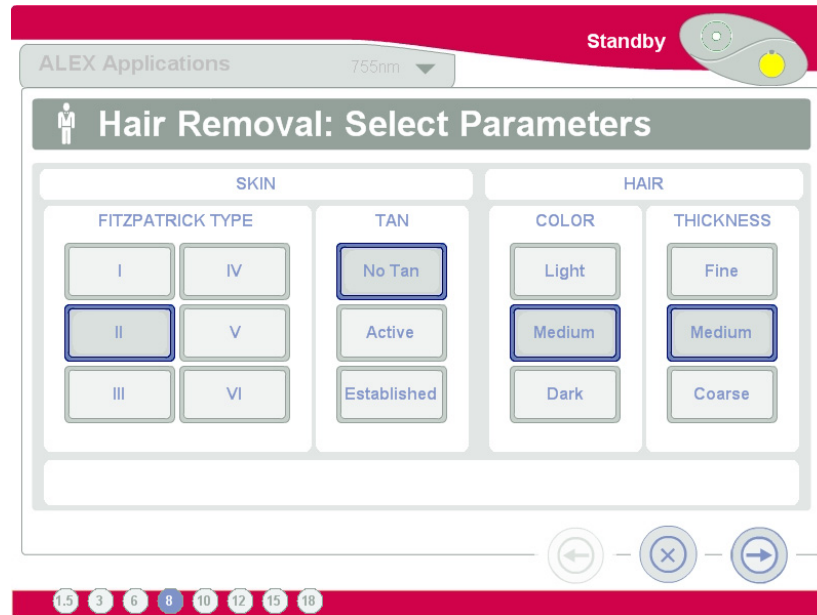

Figure 3-10: Example of Select Parameters Screen for Hair Removal
16. Select the parameters from the Select Parameters screen. When you are done, select the right arrow button to continue. **Figure 3-10** shows an example of the Select Parameters screen. **Table 3-5** lists the parameters to be configured for each application.